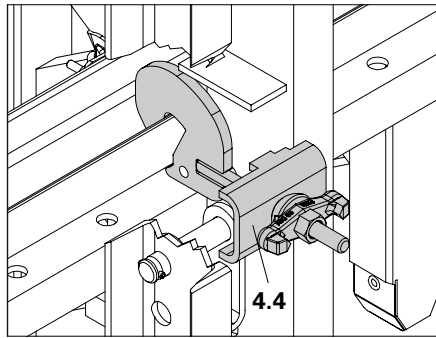

Fig. B3.07
3. Tighten the Waler Fixation. (Fig. B3.07)